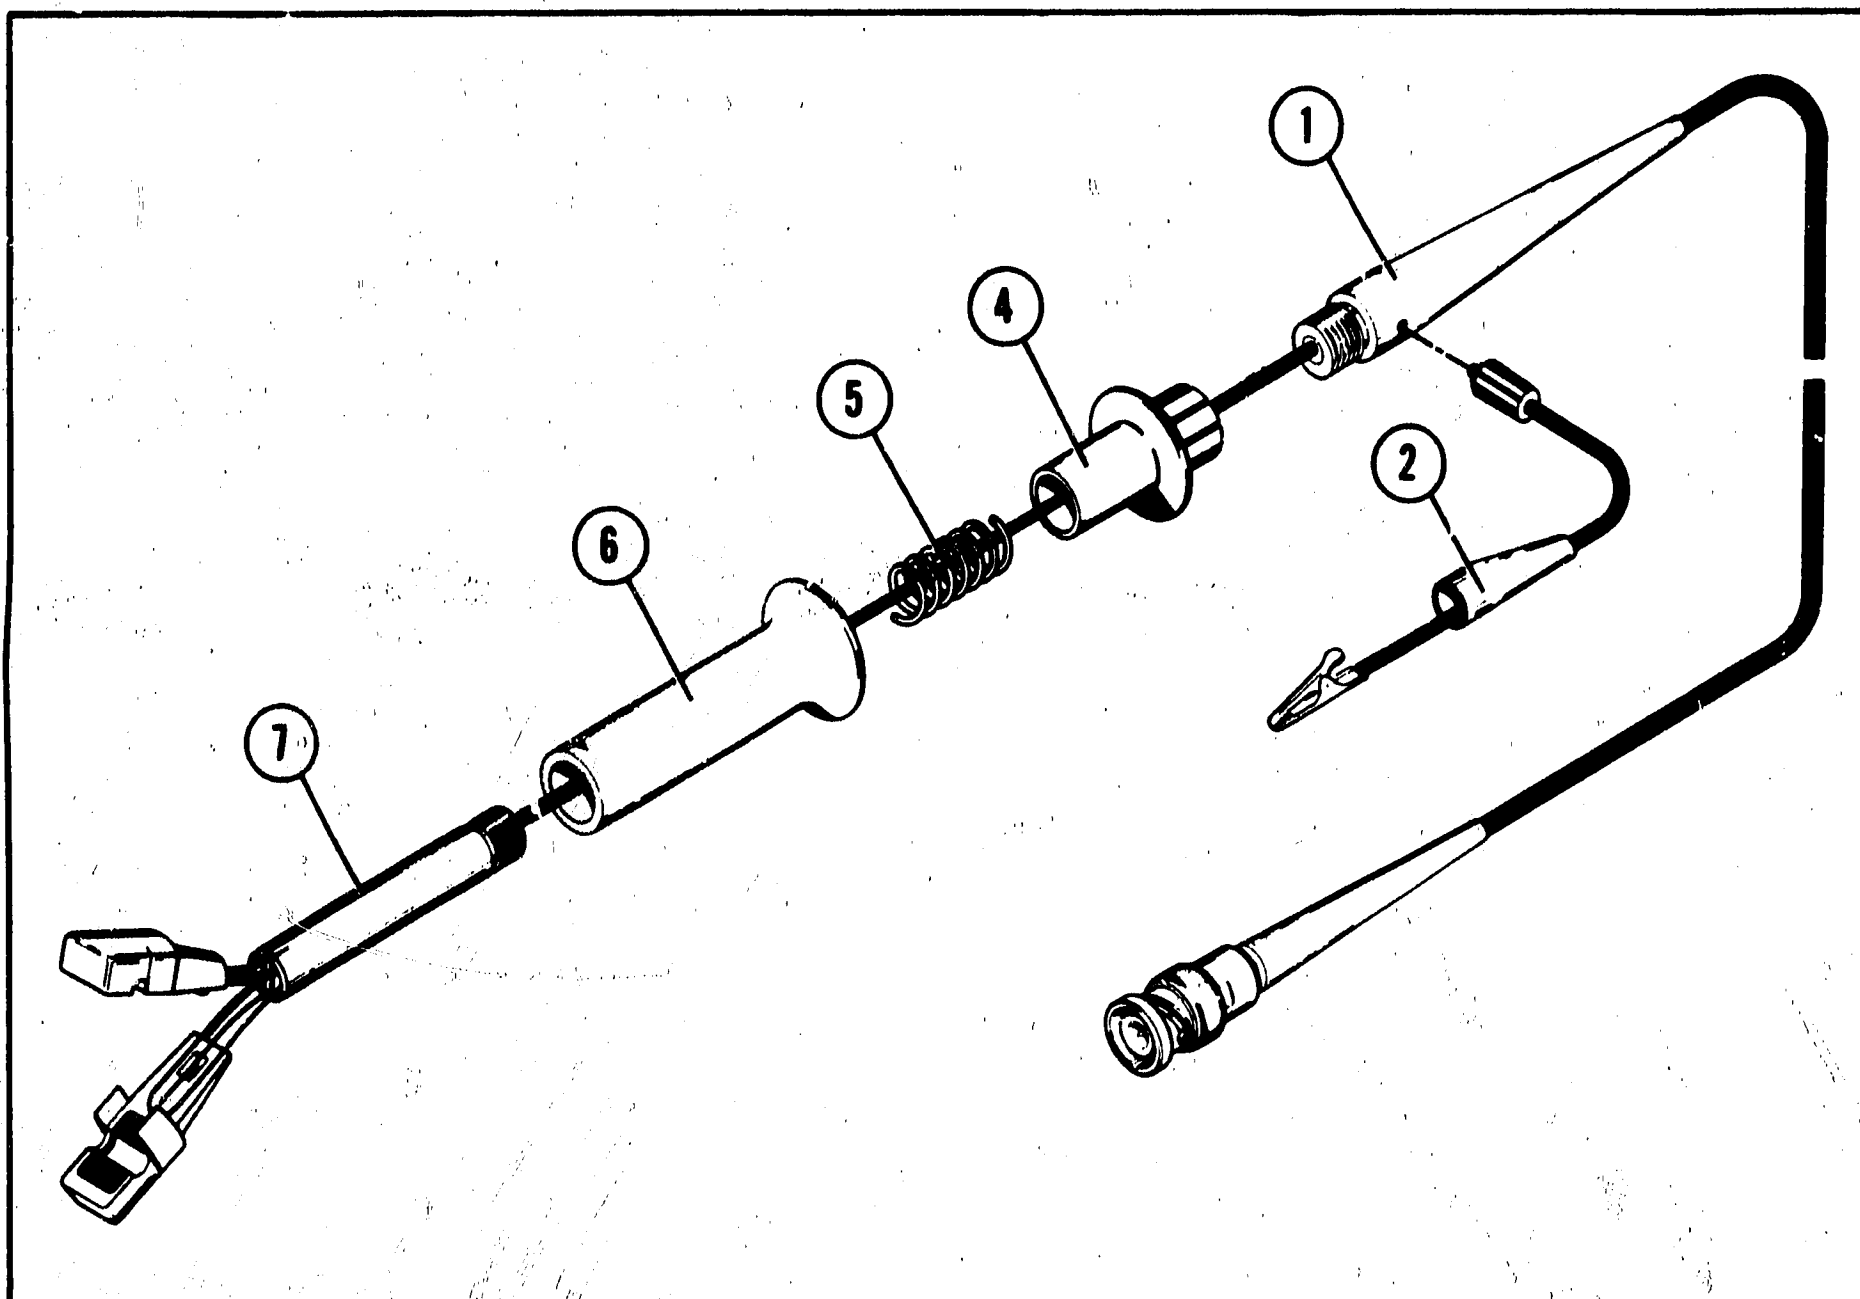

Figure 7. Model 1110B Current Probe, Exploded View
- (1) Resistors R1-R4 defective.
- (2) Ground lead defective.
38. If a defective component is suspected, the probe must be disassembled. Refer to Figure 7 for an exploded view of the probe. To gain access to the interior: